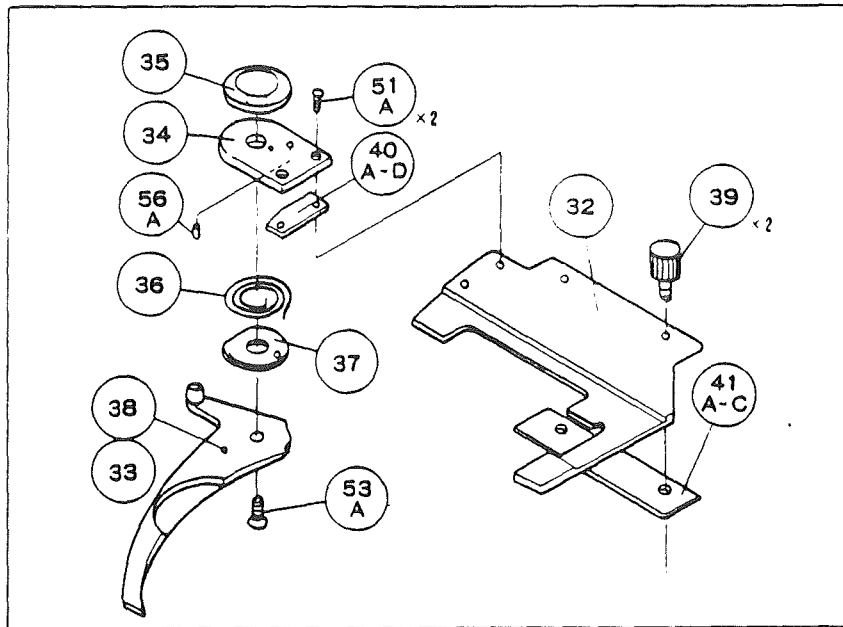

Fig. 2
- 2) Releasing the screws (51A) x 2 remove the holder metal (34) from the holder (32).
- 3) Removing the screws (53A) separate the slide glass retainer (33) together with the washer (37) and the spiral spring (36) from the holder metal (34). (Fig. 2)